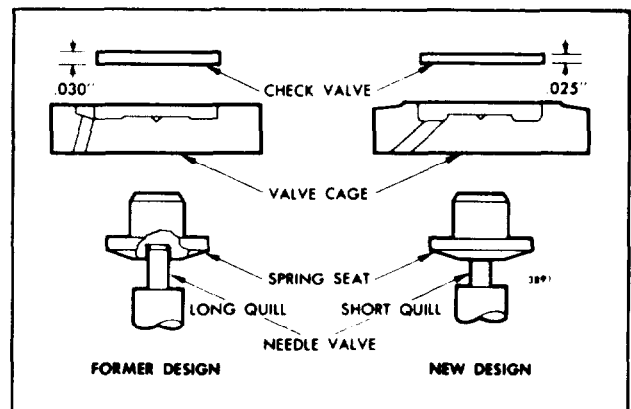

Fig. 38 - Comparison of Former and New Design Injector Parts
- CAUTION:** The former and new check valve and check valve cage are not separately interchangeable in a former injector (Fig. 38).
**CAUTION:** Install a new spring seat (Fig. 38) in